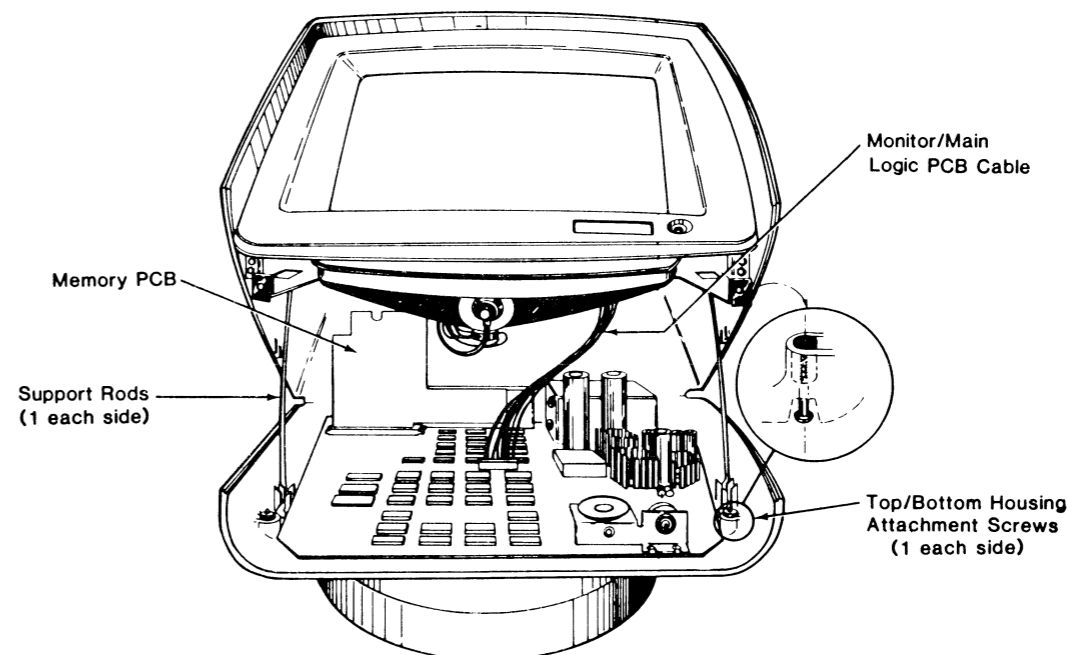

FIGURE 1. OPENED DISPLAY UNIT HOUSING
- 4) LOCATE THE TWO RECESSED SCREWS ON EITHER SIDE OF THE BOTTOM, FRONT OF THE DISPLAY UNIT (REFERENCE FIGURE 1). THESE SCREWS HOLD THE BOTTOM AND TOP HALVES OF THE DISPLAY UNIT HOUSING TOGETHER. LOOSEN THESE SCREWS UNTIL THEY ARE BOTH FLUSH WITH THE HOUSING.
- 5) PUSH IN ON THE POWER SWITCH SHAFT AND PULL OUT ON THE BOTTOM OF THE DISPLAY SCREEN BEZEL SO THE BEZEL CLEARS THE SWITCH SHAFT. CAREFULLY RAISE THE TOP HALF OF THE HOUSING UNTIL THE SUPPORT RODS ON EITHER SIDE OF THE DISPLAY UNIT LATCH INTO PLACE AS SHOWN IN FIGURE 1.
- 6) USING FIGURE 1 AS A GUIDE, DISCONNECT THE CABLE RUNNING FROM THE MONITOR PCB IN THE TOP HALF OF THE HOUSING DOWN TO THE MAIN LOGIC PCB AT THE CONNECTOR ON THE MAIN LOGIC PCB.